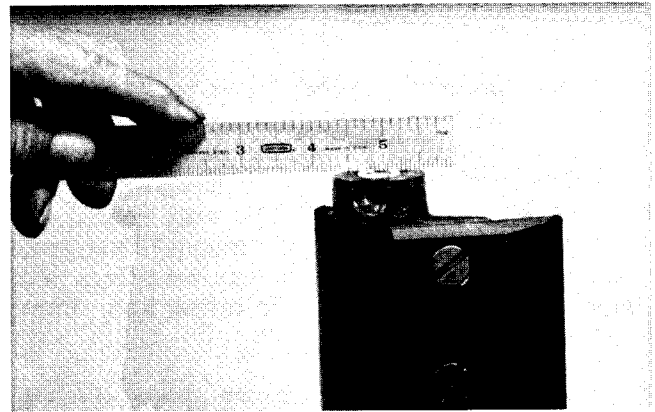

Figure 32
3. Press end bushings into bedbar far enough so plastic sleeve collar is below bedbar end face (Fig. 32).